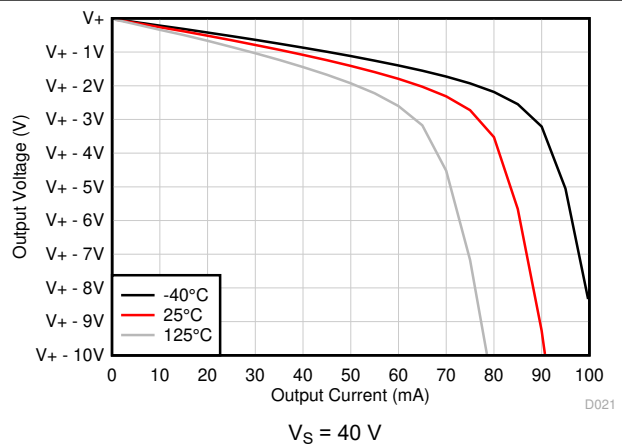

图 5-12. Output Voltage Swing vs Output Current (Sourcing)
- (1) Specified by characterization only.
- (2) At high supply voltage, placing the TLV936x in a sudden short to mid-supply or ground will lead to rapid thermal shutdown. Output current greater than I_{SC} can be achieved if rapid thermal shutdown is avoided as per 图 5-12.